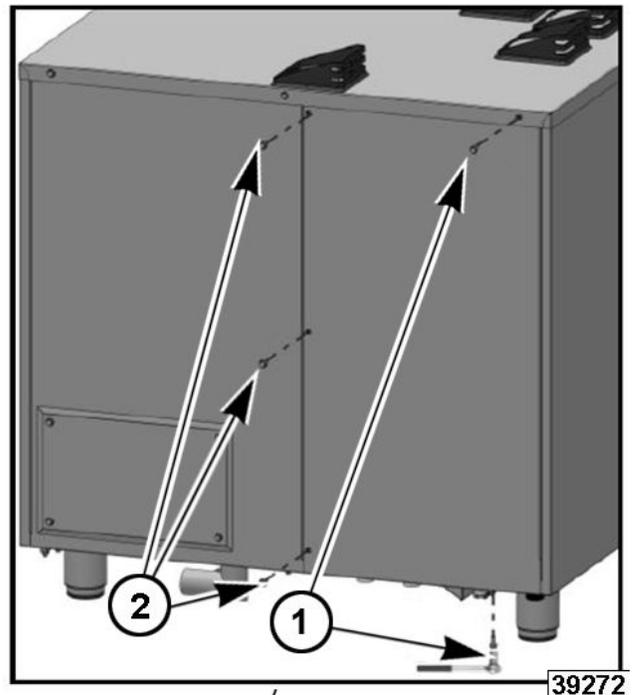

Fig. 5
1. Remove mounting screws (1, Fig. 5) at top and bottom of rear panel.
2. Remove mounting screws (2, Fig. 5) on left side of rear panel.